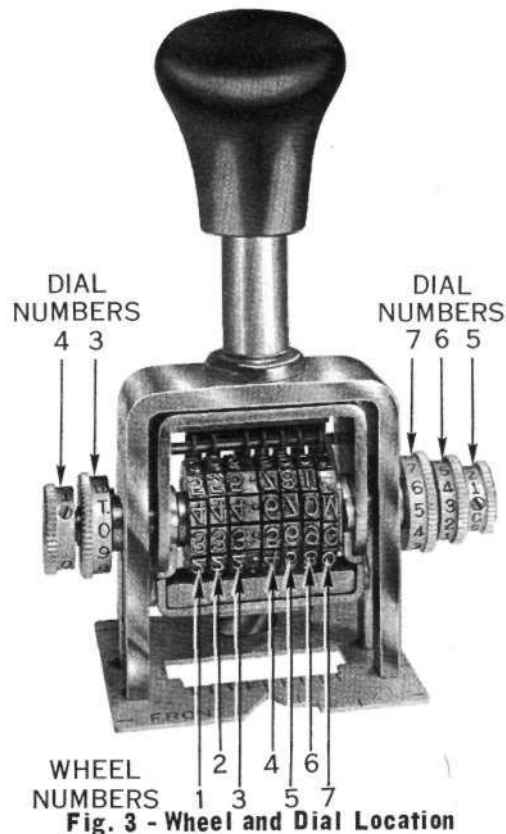

Fig. 3 - Wheel and Dial Location
- (4) Set the remaining wheels by use of the dials on the machine. Dial "3" controls wheel 3, etc. (See Fig. 3.)